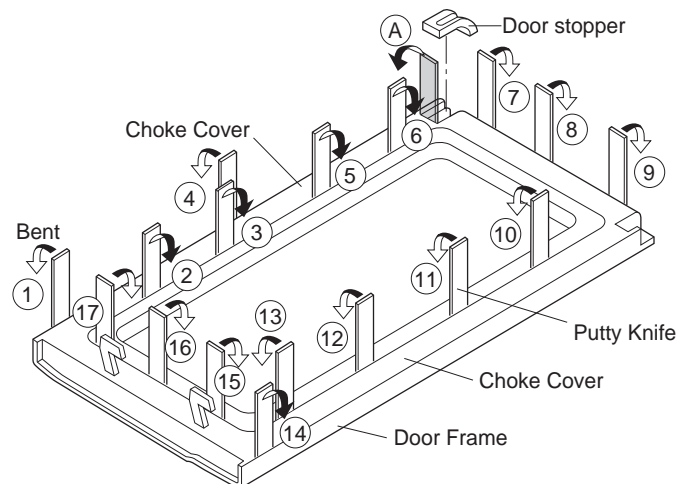

Figure C-3. Door Disassembly
6. Insert a putty knife (thickness of about 0.5mm) into the gap A between the door stopper and the choke cover as shown in Figure C-3 to free engaging parts.
7. Insert an putty knife (thickness of about 0.5mm) into the gap between the choke cover and door panel and between the choke cover and the door frame as shown Figure C-3 to free engaging parts.
8. Try the principles of the lever and lift up the choke cover by inserting a putty knife in order shown in Figure C-3.